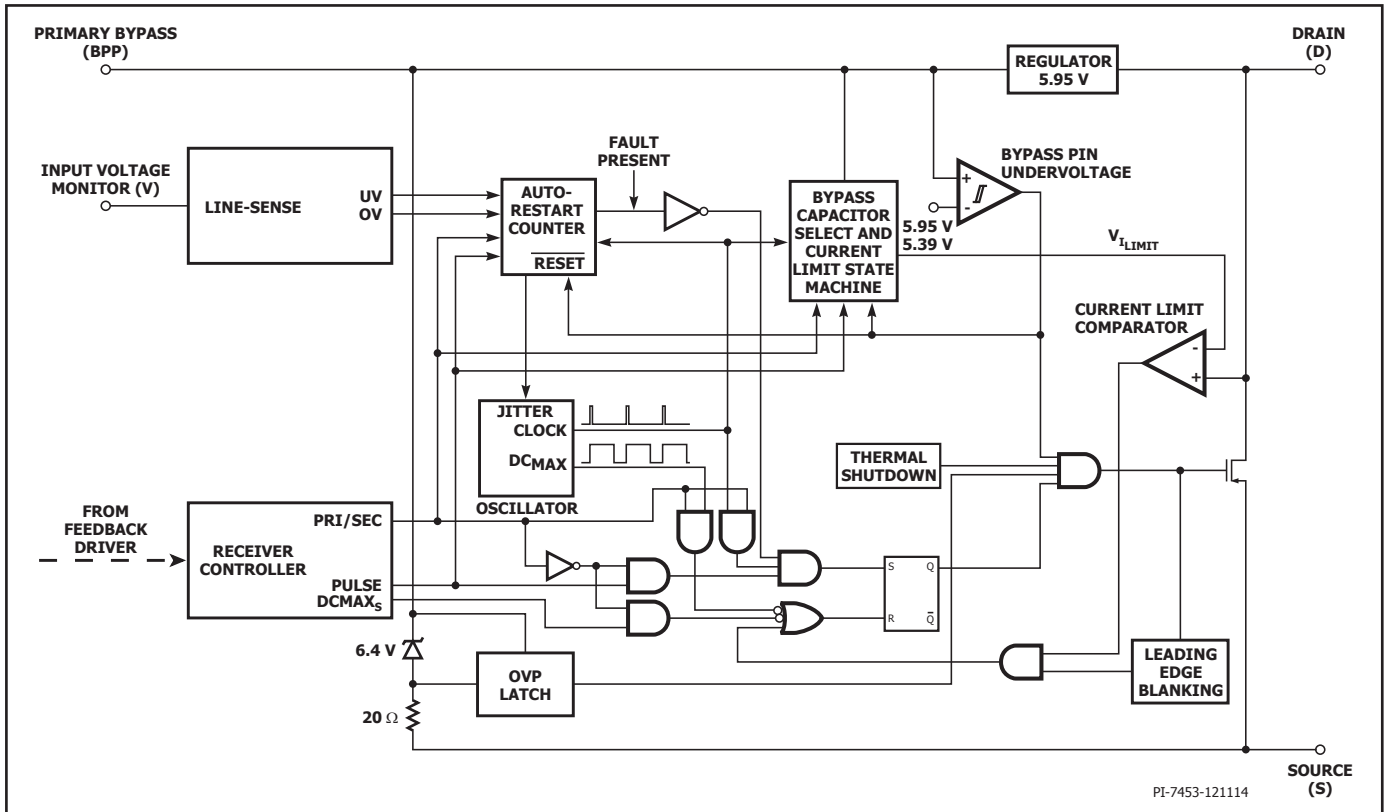

Figure 3. Primary-Side Controller Block Diagram.
The InnoSwitch-CE combines a high-voltage power MOSFET switch, along with both primary-side and secondary-side controllers in one device. It has a novel inductive coupling feedback scheme using the package leadframe and bond wires to provide a reliable and low-cost means to provide accurate direct sensing of the output voltage and output current on the secondary to communicate information to the primary IC. Unlike conventional PWM (pulse width modulated) controllers, it uses a simple ON/OFF control to regulate the output voltage and current. The primary controller consists of an oscillator, a receiver circuit magnetically coupled to the secondary controller, current limit state machine, 5.95 V regulator on the PRIMARY BYPASS pin, overvoltage circuit, current limit selection circuitry, over temperature protection, leading edge blanking and a 650 V power MOSFET. The InnoSwitch-CE secondary controller consists of a transmitter circuit that is magnetically coupled to the primary receiver, constant voltage (CV) and constant current (CC) control circuitry, a 4.4 V regulator on the SECONDARY BYPASS pin, synchronous rectifier MOSFET driver, frequency jitter oscillator and a host of integrated protection features. Figures 3 and 4 show the functional block diagrams of the primary and secondary controllers with the most important features.